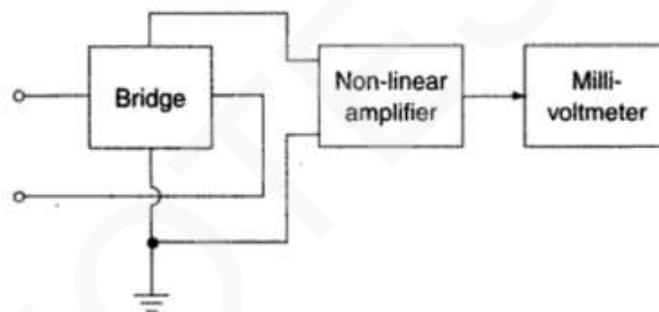

Figure 17.70: Application of non-linear amplifier in AC Bridge balance detector
- **Common Application:** AC Bridge balance detectors (Figure 17.70).